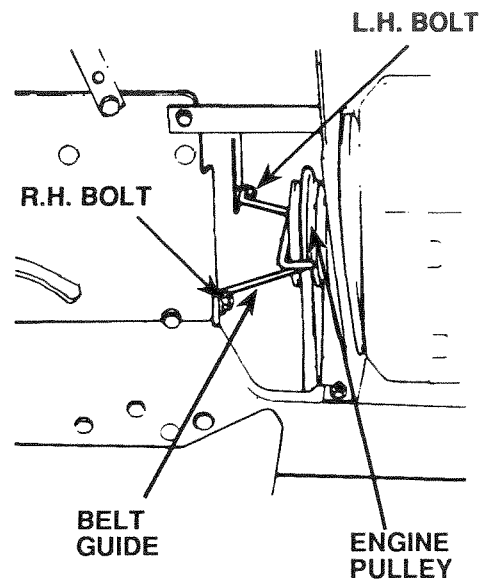

FIGURE 26
- Loosen (do not remove) two Engine Pulley Belt Guide Bolts and swivel R. H. side of Belt Guide up. Tighten L.H. bolt to hold Belt Guide in position (Fig. 26).
- Loosen L.H. Engine Pulley Belt Guide Bolt and swivel Belt Guide on to R.H. Bolt. Tighten L.H. and R.H. Bolts securely (Fig. 26).